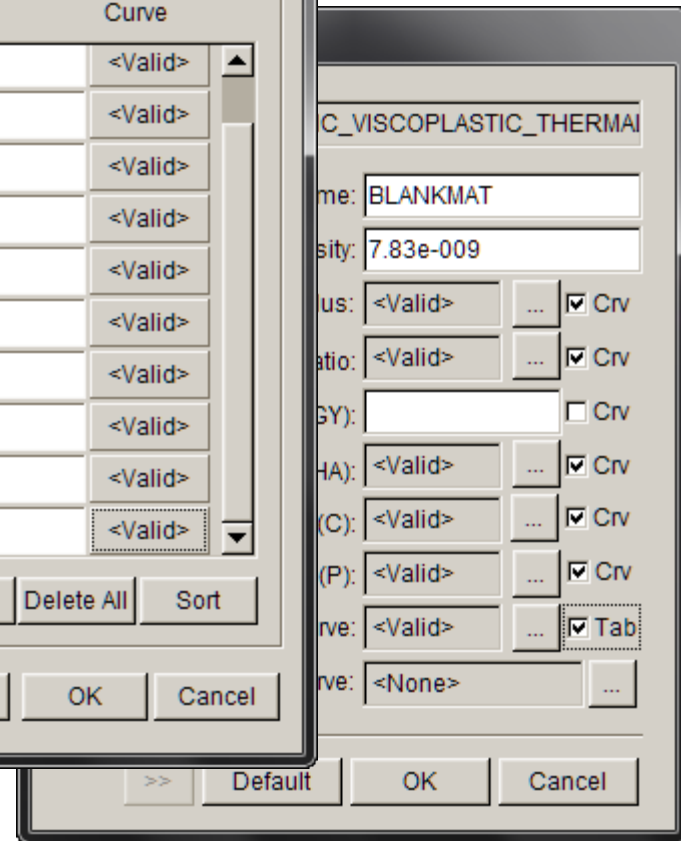

Figure 26
11. Click **OK** to accept the stress/strain definition. (Figure 26).